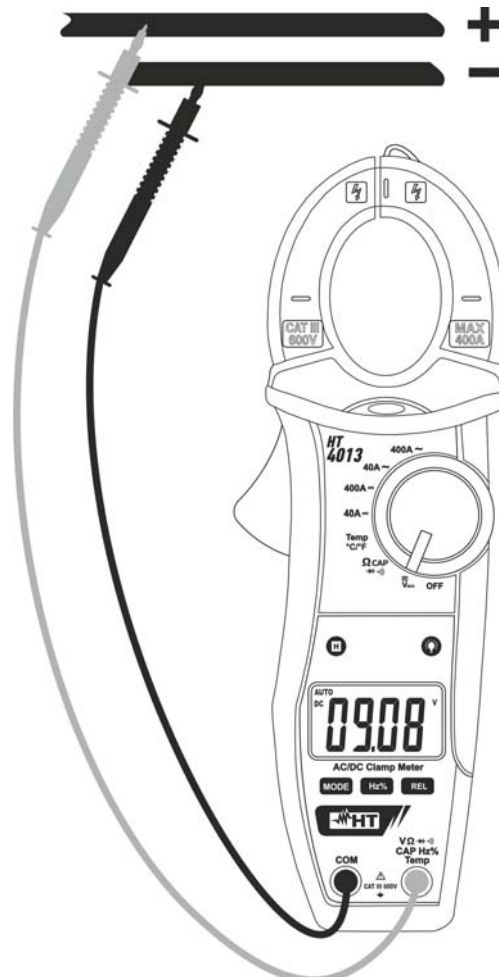

Fig. 3: Use of the clamp for DC voltage measurement
3. Position the test leads in the desired points of the circuit to be measured (see Fig. 3). The display shows the value of voltage.
5. When symbol “-” appears on the instrument’s display, it means that voltage has the opposite direction with respect to the connection in Fig. 3